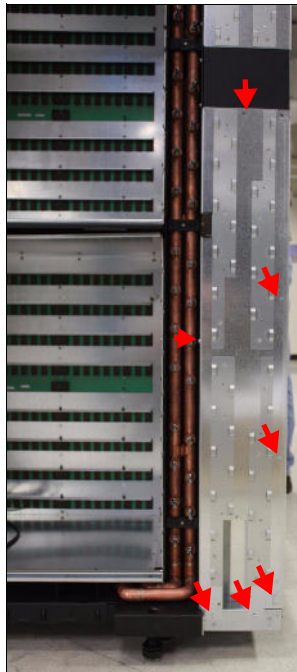

Figure 1-12 Cable support cover with screw locations
6. Install the cable support cover (part number 46K5472). There are seven screws to secure the cable support cover. See Figure 1-12 for information about where to place the screws.